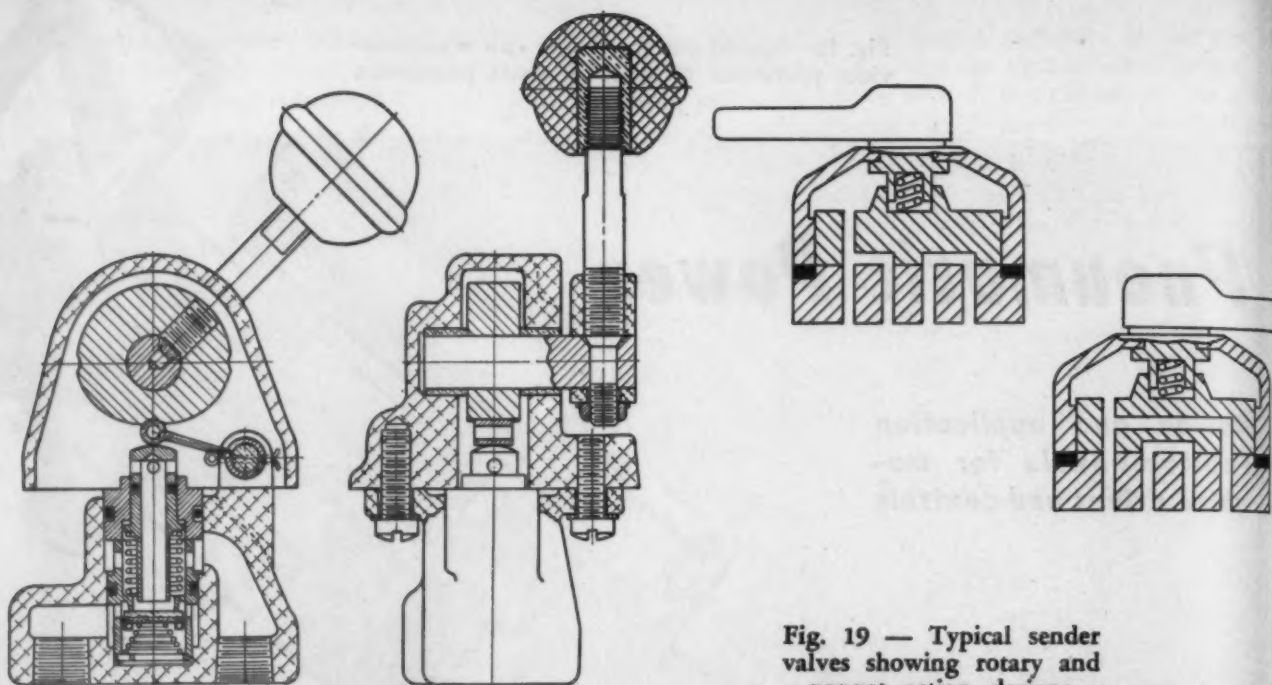

Fig. 19 — Typical sender valves showing rotary and poppet action designs
the on-and-off type which either delivers full supply pressure to the actuator or exhausts air from it. Fig. 19 shows two typical valves of this type. The rotary valve consists of two disks lapped to an airtight fit. One disk rotates on the other to connect the various ports at the lapped surface. This rotary valve construction lends itself to multifunction valves with several positions connecting various ports in each position. The pilot valve is a poppet type supply and exhaust valve, lever-operated. In addition to hand-operated senders, there are many others that are operated by foot pedals, pushbuttons, solenoids, cams, levers and other machine parts.
1. The starting button is a valve similar to the pilot valve shown in Fig. 19, except that it has a push-button instead of a lever
5. The cycle completion feature is a pilot valve similar to Fig. 19 except for a lever arrangement